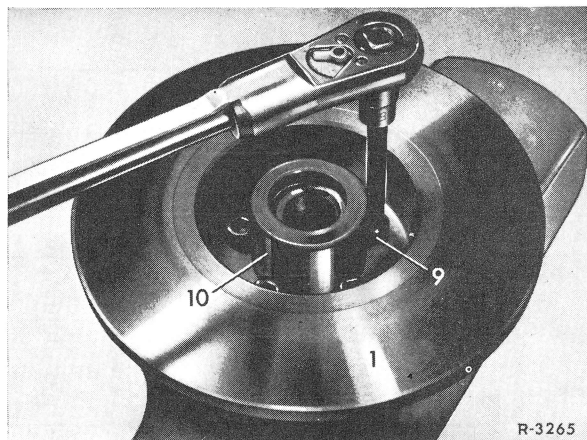

Fig. 2
- 3 Screw three hex. bolts M 12 x 1.5 into front wheel hub. Then clamp front wheel hub into a vise using aluminum jaws (Fig. 2).
**6** Attach brake disc (1) to front wheel hub (10) with new hexagon socket screws (9) with captive snap ring (Fig. 2).